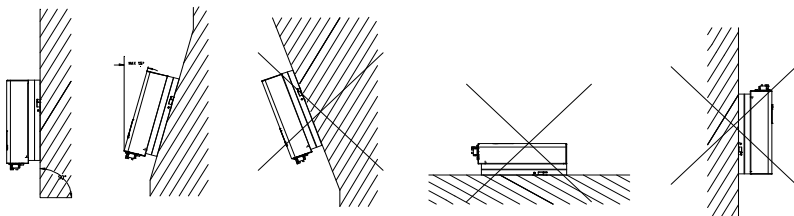

Figure 4.1 Mounting Method
Please mount the inverter correctly as shown in Figure 4.1 below.
(2)Please install the equipment under the guidance of Figure4.1. Vertical installation on floor level is recommended. Mount vertically or tilted backwards by max.  $15^{\circ}$  . Never install the inverter tilted forwards, sideways, horizontally or upside down.
(3) Install the inverter at eye level for convenience when checking the LCD display and possible maintenance activities.